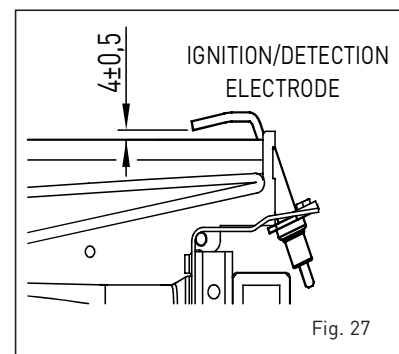

Fig. 27
6.4.4.1 Ignition/Detection electrode (fig. 27)